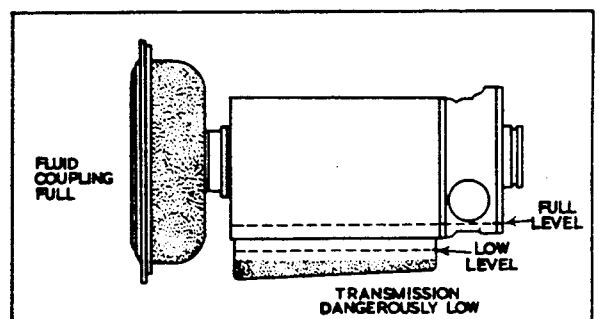

FIG. 2. AFTER FAST-IDLE RUN.
- (ii) Check that the control lever is at "N" (Neutral) and that the hand brake is on, and run the engine at a fast idle for approximately 5 minutes. Switch off the engine. See Fig. 2.